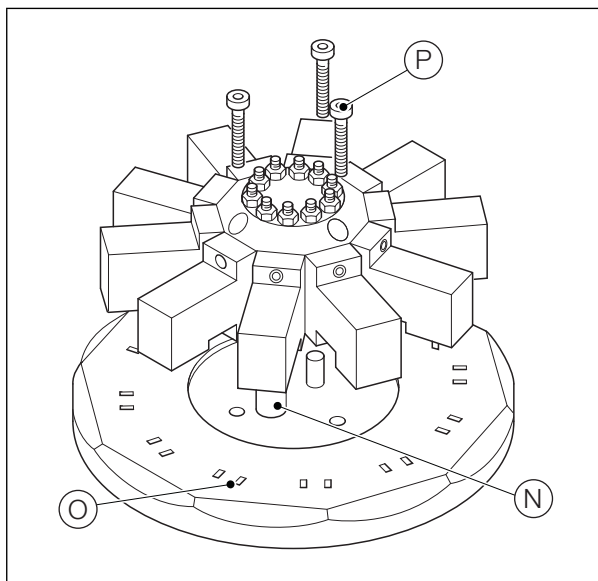

Fig. 13.3 Refitting the Valve Manifold
6. Referring to Fig. 13.3:
- a. Locate the valve manifold over the off-set pegs (N) on the base plate, ensuring that the terminals on each valve engage in the sockets (O) on the base plate.
- b. Secure the valve manifold to the base plate with the three M4 screws (P).